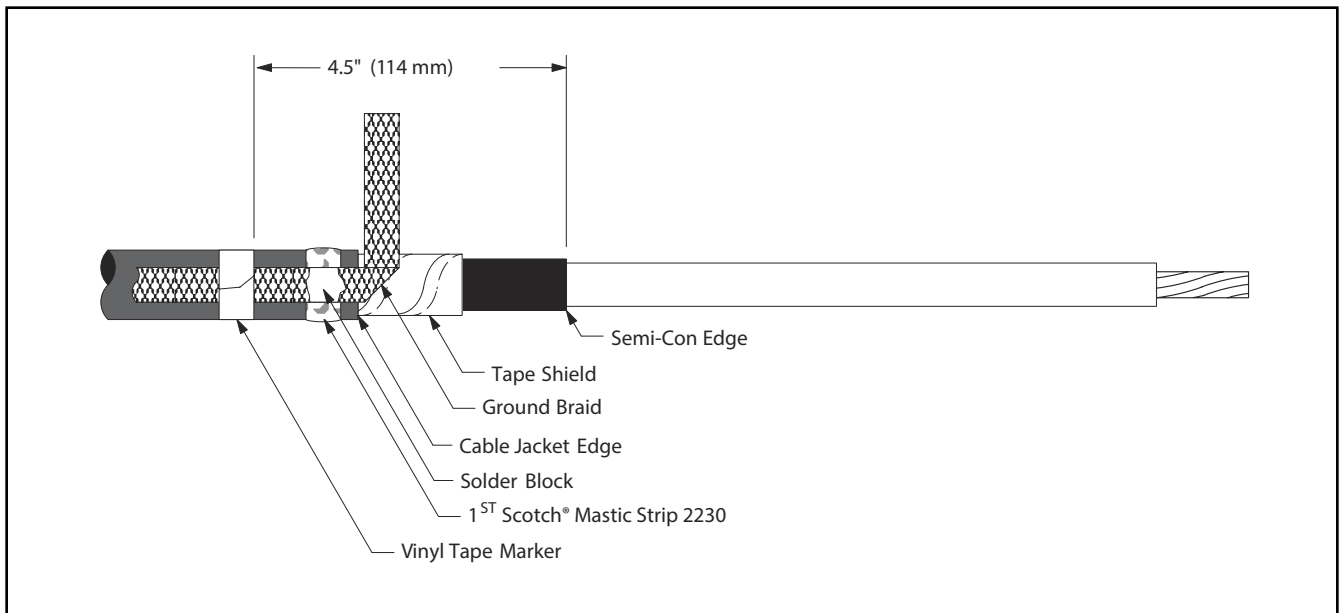

Figure 3
- 2.2 Position pre-formed ground braid with short tail over tape shield directly adjacent to cable jacket cut edge. PLEASE NOTE: The ground braid needs to make full contact with the metallic tape shield. Position long tail of ground braid, extending over cable jacket with solder block over mastic strip (*Figure 3*). Secure ground braid to cable jacket 4.5" (114 mm) from cable semi-con edge using vinyl tape (*Figure 3*).